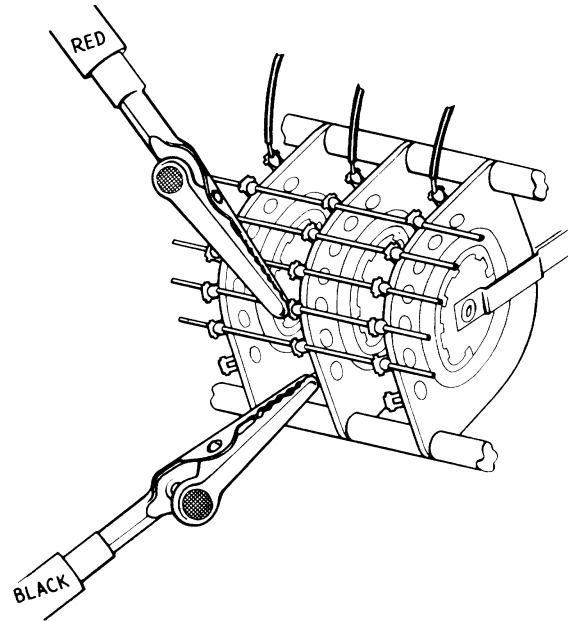

FIGURE 5. METER CONNECTIONS FOR MEASURING
8. Connect a DC current meter from the #5 terminal of the plate toggle switch to the #3 terminal of the same toggle switch. See Figure 5 for an indication of the location for these meter lead connections. The #5 terminal of the toggle switch is the one nearest the bottom of the panel.